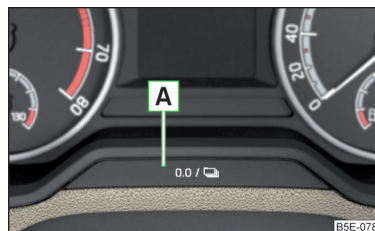

Fig. 30
- Press and hold the button **A** » Fig. 30 until the **Service** menu item is shown in the display.